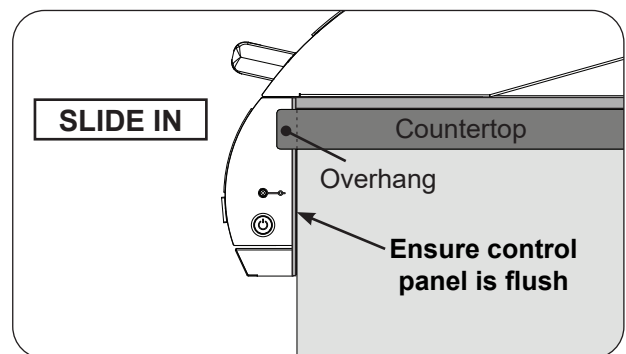

Fig. 28-3 Slide in unit (ensure flush)
- Ensure the unit fully slides in so that the control panel sits flush against the enclosure front wall. See the COUNTERTOP OVERHANG section in ENCLOSURE REQUIREMENTS for details. See Fig. 28-3.